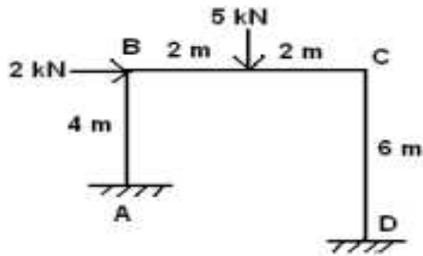

Fig.5
24. Find the fully plastic moment required for the frame shown in Fig.5, if all the members have same value of M_p .